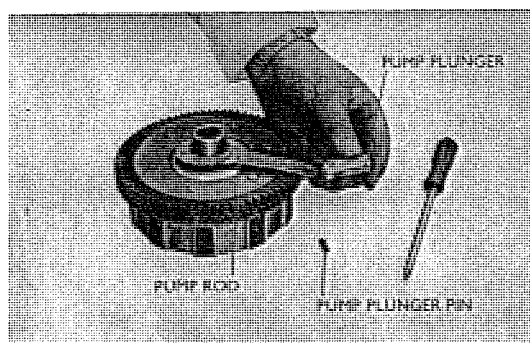

Fig. 3.70 Removing plunger,
6. Extract the pump plunger pin and remove the plunger at the tip of the pump rod. (Refer to Fig. 3.70)